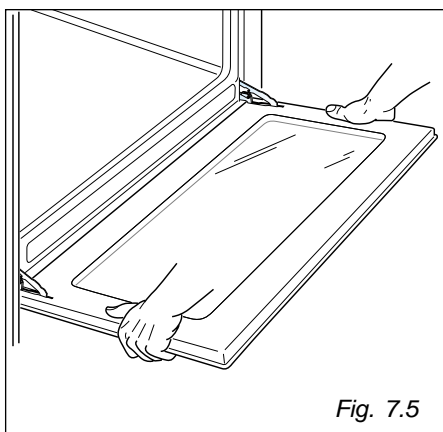

Fig. 7.5
- Hold the door as shown in fig. 7.5.